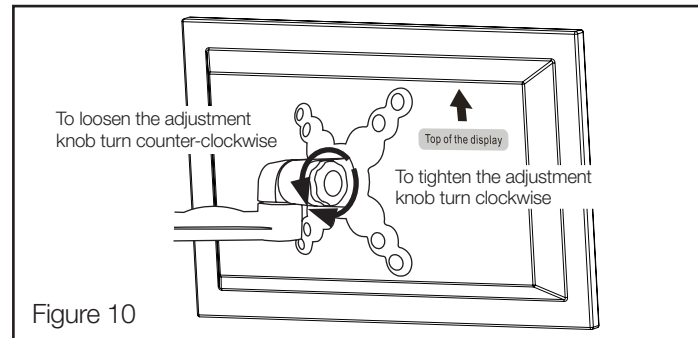

Figure 10
3. You can now move your TV side to side at 180°. To tilt your TV up or down by 15°/-15°, slowly loosen the adjustment knob (ensuring you keep a good grip of your TV) and adjust your TV to the desired angle. Once in position, tighten the adjustment knob securely by turning it clockwise (see Figure 10).